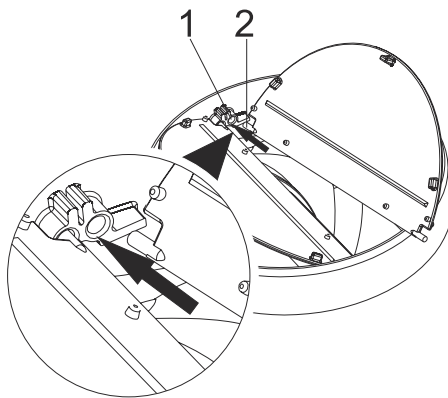

Fig. 10
- Insert the plastic pin (area no.2) on the pin socket on the motor exhaust (area no.1).Fig. 10(Fig. 10 Then bend the flap lightly to insert the other pin on the flap and insert the other pin to its socket (Fig. 10).